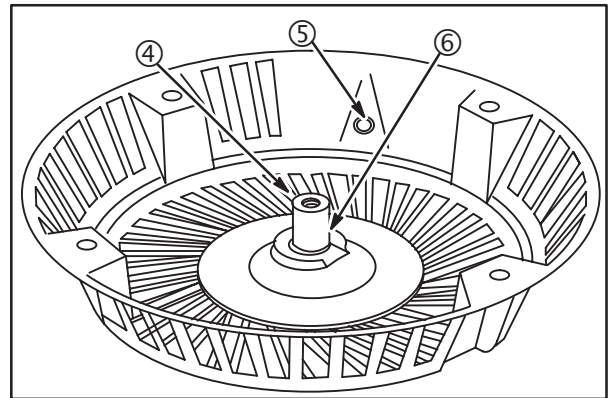

Fig. 68
Inspect starter housing for wear and sharp edges at rope eyelet (5), center pivot post (4), and at inner spring anchor (6), Fig. 68. Replace if worn or damaged.